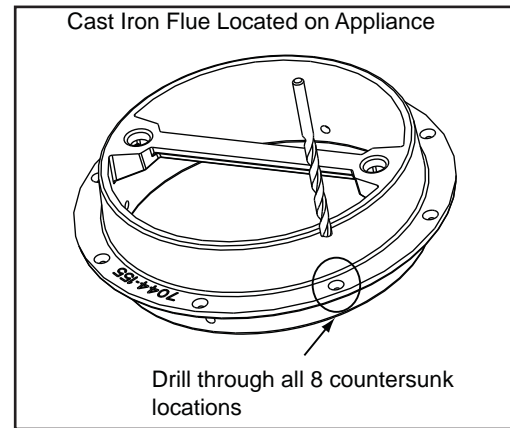

Figure 17.2
1. Remove the cast iron flue collar from the appliance and flip it upside down. Using the larger #7 drill bit supplied, drill through all 8 countersunk locations. **Figure 17.2.**